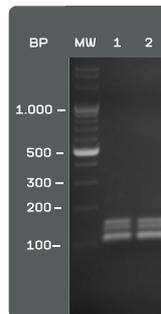

Figure 2: Agarose gel analysis of multiplex real-time PCR using EURx M³ Multiplex Master Mix - qPCR Probe (as shown in figure 1).
- Agarose Gel Check During Assay Development.** It is recommended to check the PCR product specificity by gel electrophoresis when designing a new assay. Melting temperatures of the specific product and primer-dimers may overlap (see figure 2).